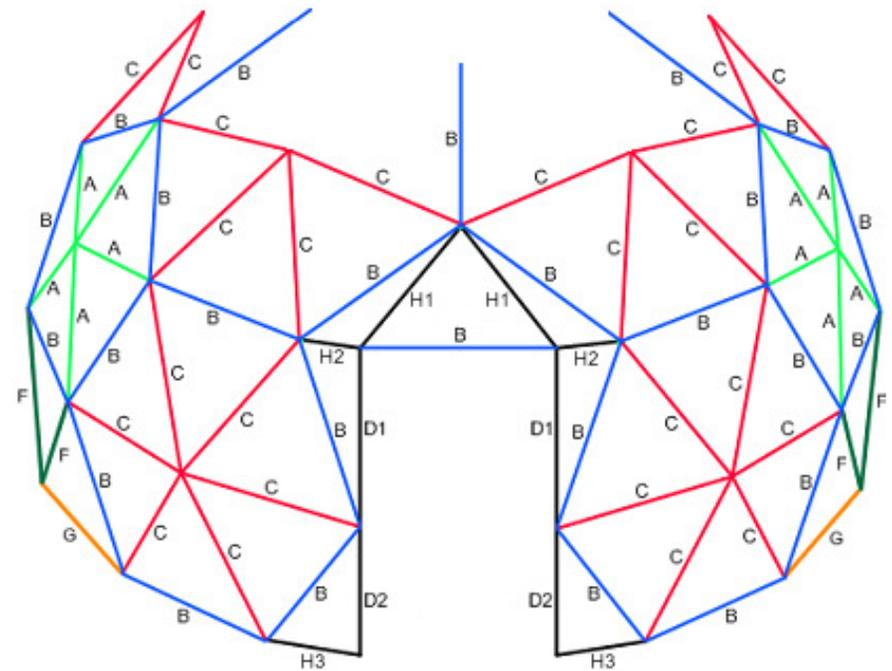

Figure 14 - Add 5 vertical B struts.
- Count out 10 C's. First, connect two C struts to the tips of the vertical B struts installed in the previous step. Then swivel the new C struts to connect to the frame as shown in Figure 14.
- Next count out 5 B's. Install these struts in a vertical orientation so that they match Figure 14. Be sure you are installing each B strut at a joint where there is a vertical A strut beneath it, with the exception of the joint above the doorway.